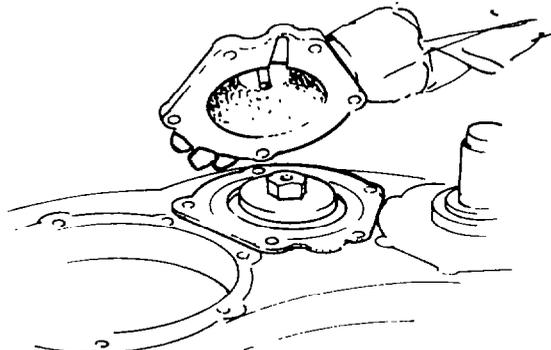

Fig. 227 — Removing Countershaft Rear Bearing Cover
- s. Remove the countershaft rear bearing cover and adjusting shims. Wire the adjusting shims together for use at reassembly (see fig. 227).